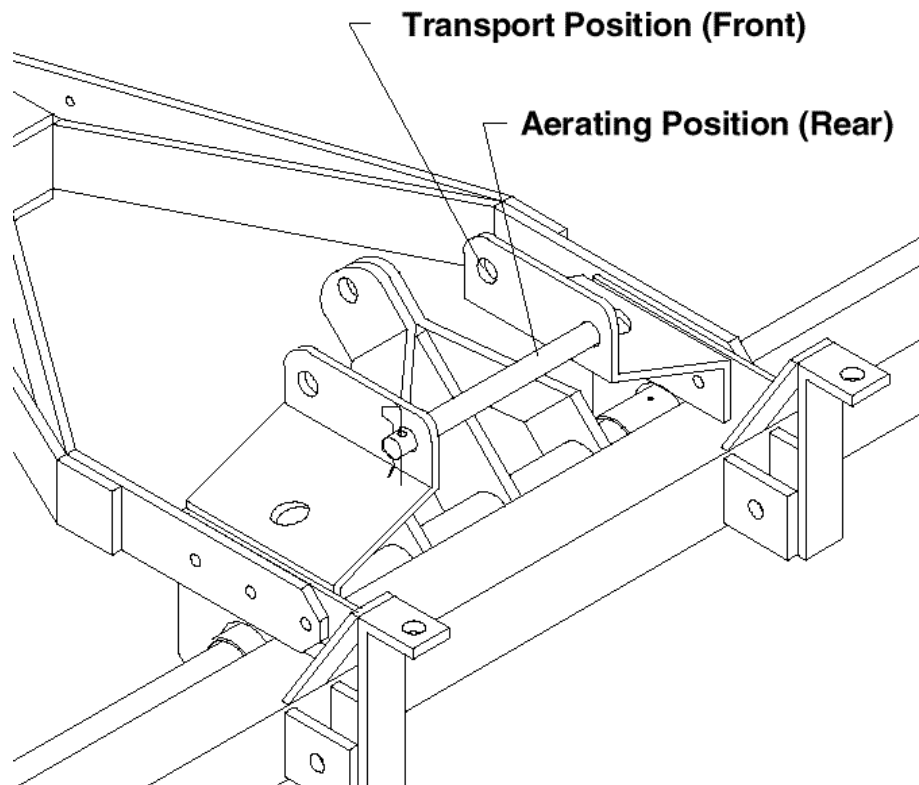

Figure 3
1. Move the lock pin to the rear (aerating) position (Fig. 3).
6. When transporting the Aerator 686, place the lock pin in the front hole. This prevents the aerator from dropping in case of accidental release of oil in the lift cylinder (Fig. 3).